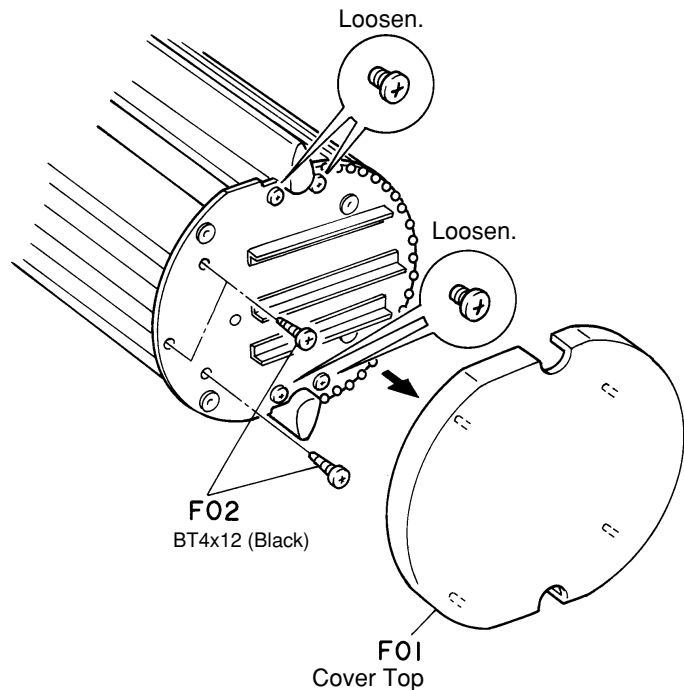

Fig. 1.2 Top View
- (3) Remove F01 (Cover Top) by pulling it upward. See Fig. 1.2.
- (4) Remove the 3 screws F02 (BT4x12 + Binding (Black)) and loosen the 4 screws. See Fig. 1.2.